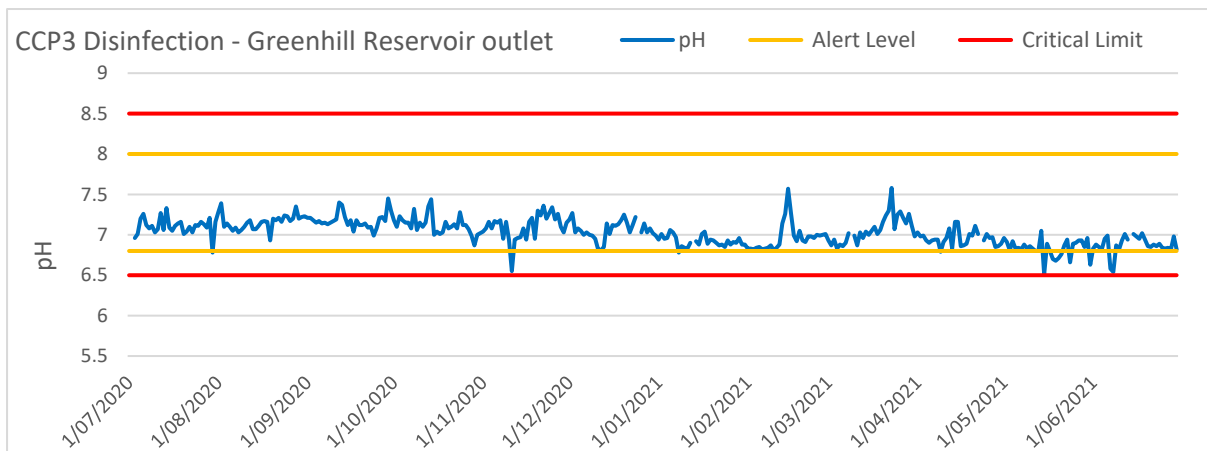

Figure 4.3.1c CCP3 Disinfection – pH at Greenhill Reservoir outlet
Thirteen (13) Alert Level exceptions occurred from one-thousand and fifty-three (1053) samples; a reduction of twenty-two (22) from 2019-2020 (Table 4.1). All exceptions were at CCP3 pH and being a low Alert Level of <6.8 pH (Figure 4.3.1c). Contributing faults include: